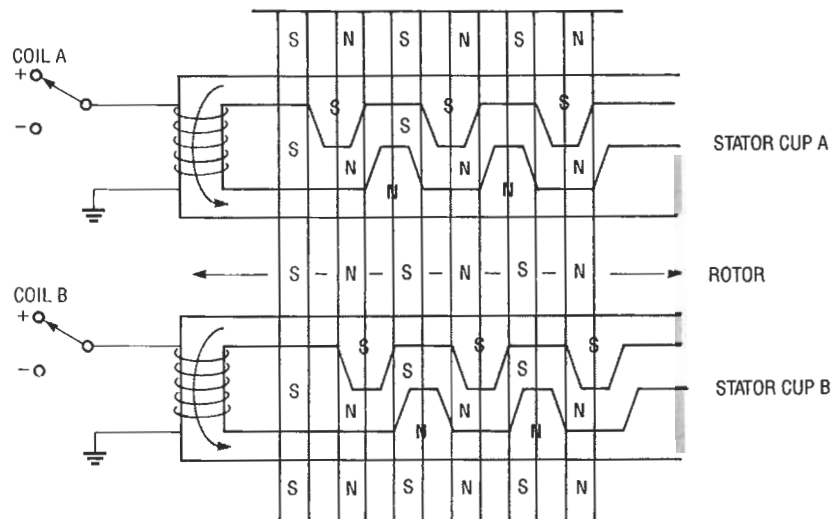
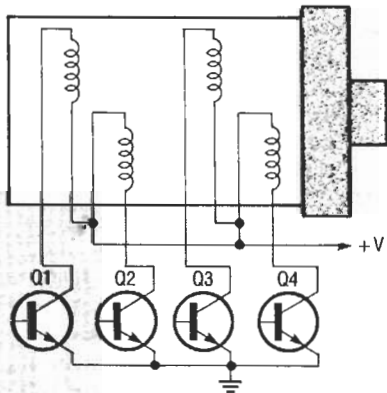

FIG. 2—MECHANICAL DIAGRAM showing the parts of a bipolar stepper motor.
FIG. 4—WIRING DIAGRAM for a unipolar stepper motor.
A stepper motor converts electrical pulses into rotational motion. As shown in Fig. 2, a typical stepper motor consists of a permanent-magnet (PM) motor built around two stator cups, with each cup surrounding a separate stator winding. The stator cups form pole pairs that are mechanically displaced by $\frac{1}{2}$ a pole pitch. However, the stator-cup winding pairs displace each other by only $\frac{1}{4}$ a pole pitch. When the stator windings are energized, the pole pairs are energized in alternation, thus creating North and South magnetic poles. The PM rotor is magnetized, so it aligns on the pole pairs provided by the stator cups.
Figure 4 shows the schematic of a unipolar stepper motor with associated drive transistors. Note that four coils are shown. Each winding consists of two coils wound on the same bobbin per stator half. (By contrast, Fig. 2 depicts a two-coil or "bipolar" stepper.)